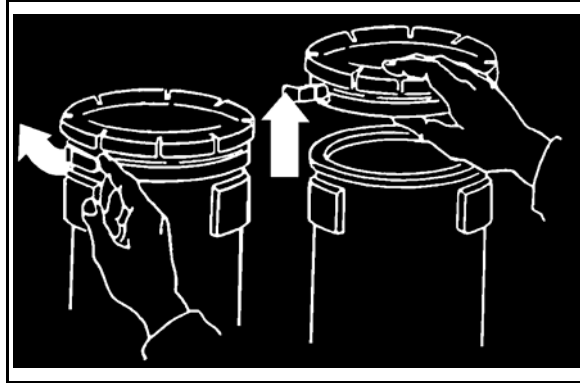

Figure 4. Handling ring.
7. Remove the forward handling ring from the nose end of the TOW. Release the clamp and remove the handling ring (Figure 4, page 3-88).